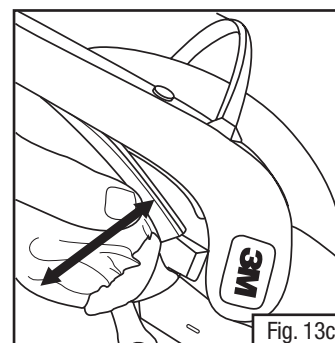

Fig. 13c
- Grasp the black faceseal gasket and slowly pull straight out in small sections, working your way around the faceseal (Fig. 13c).
- On the faceseal, locate the side with the fabric "loop" which is sewn into the elastic. Holding the faceseal with this side facing up, grasp the black gasket on the faceseal and align with the edge of the groove in the visor frame. Starting with one edge, press the gasket firmly into the groove in small sections, working your way around the faceseal (Fig. 13c). Both gasket ribs should be fully inserted into the groove.